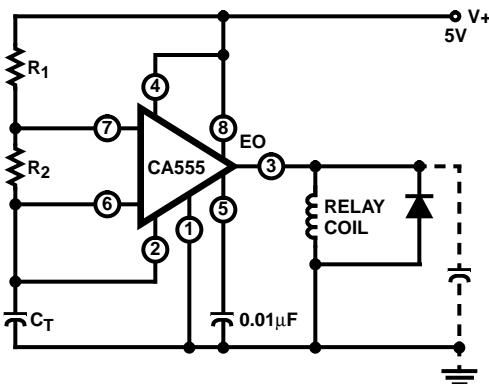

FIGURE 4. REPEAT CYCLE TIMER (ASTABLE OPERATION)
3. The threshold current will determine the sum of the values of R_1 and R_2 to be used in Figure 4 (astable operation); the maximum total $R_1 + R_2 = 20\text{M}\Omega$.
Figure 4 shows the CA555 connected as a repeat cycle timer. In this mode of operation, the total period is a function of both R₁ and R₂.